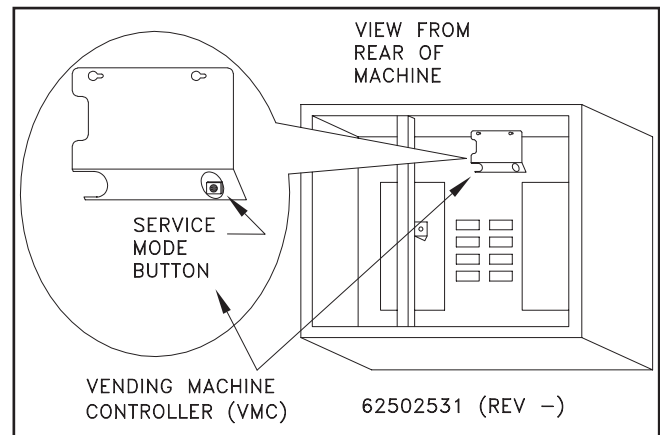

FIGURE 5
2. Press the round yellow push button on the VMC (See figure 5). An audible "beep" signals the service mode has been accessed. Either the System Errors Menu (if system errors are present) or the Main Menu (if no errors are present) will be displayed.